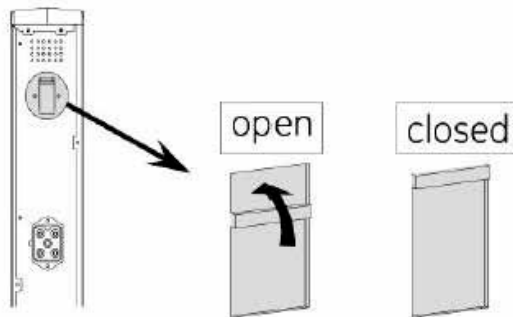

FIG 42 – 6KVA BATTERY PACK BREAKER
2. In case external battery packs are used, switch on the battery pack circuit breaker (FIG 42).